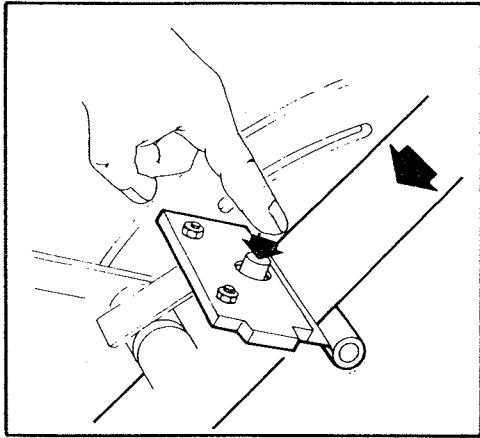

FIGURE 4A
- 3) For subsequent tape loading operations, use the red plastic threading needle and follow the loading procedures from figure 4A to complete the tape threading.
Figure 4A - Insert red plastic needle downward between one-way roller and anti-back-up spring. Press spring away from roller by utilizing silver button or lever on spring as designated by arrow.